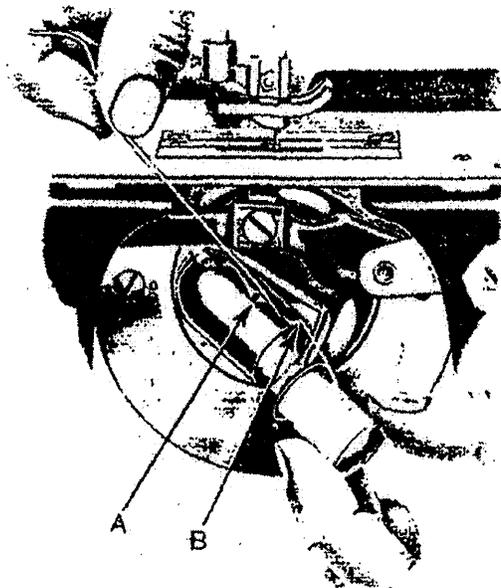
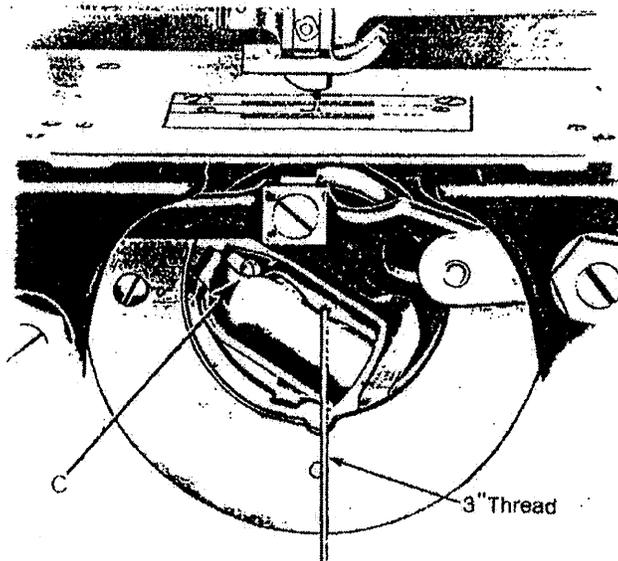
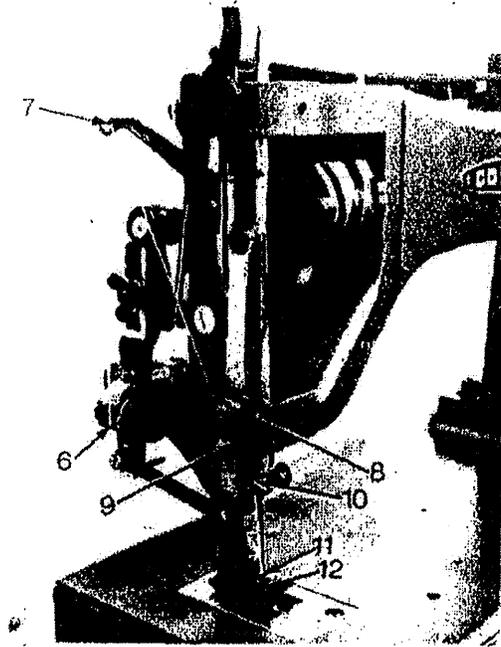
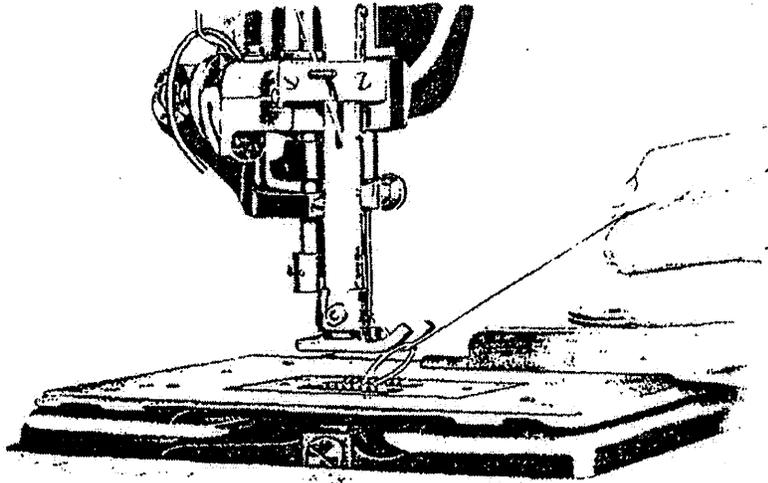

Fig.4 Bobbin Replacement and Threading the Shuttle
Fig.5 Bobbin replaced and Shuttle thread
Fig.7 Threading the Needle
Fig. 8 Drawing up the Bobbin Thread
Hold the bobbin between the thumb and index finger of the left hand, at the same time the thread is drawing off from the underside toward the right as shown in Fig.4. Place the bobbin in the cylinder as far as it will go, draw the thread in the slot B, Fig.4 in the cylinder and under the tension spring, then into the delivery eye A, Fig.4, then push the cylinder back until it is locked by the spring latch, and allow about 3 inches of thread to hang free from the shuttle Fig.5 so that it can be drawn up through the throat plate, as noted in Fig.8.
Fig. 7 into the slot 9 in the vibrating presser bar, into thread guide 10 on the needle clamp, and from left to right through the eye of the needle 11 then pass the thread down through the hole in the lifting presser foot 12. Draw about four inches of thread through the hole of the lifting presser foot with which to pull up the bobbin thread as shown in Fig. 8.
With the left hand hold the end of the needle thread,leaving it slack from the hand to the needle.Turn the balance wheel until the needle moves down and up again to its highest position,thus catching the bobbin thread;draw up the needle thread and the bobbin thread will come up with it through the hole in the throat plate(see Fig.8)Lay both threads back under the presser feet.
B. The tension on the bobbin thread is regulated by the screw C Fig.5 which holds the tension spring to the cylinder.To increase the tension,turn the screw to the right.To decrease the tension,turn the screw to the left.